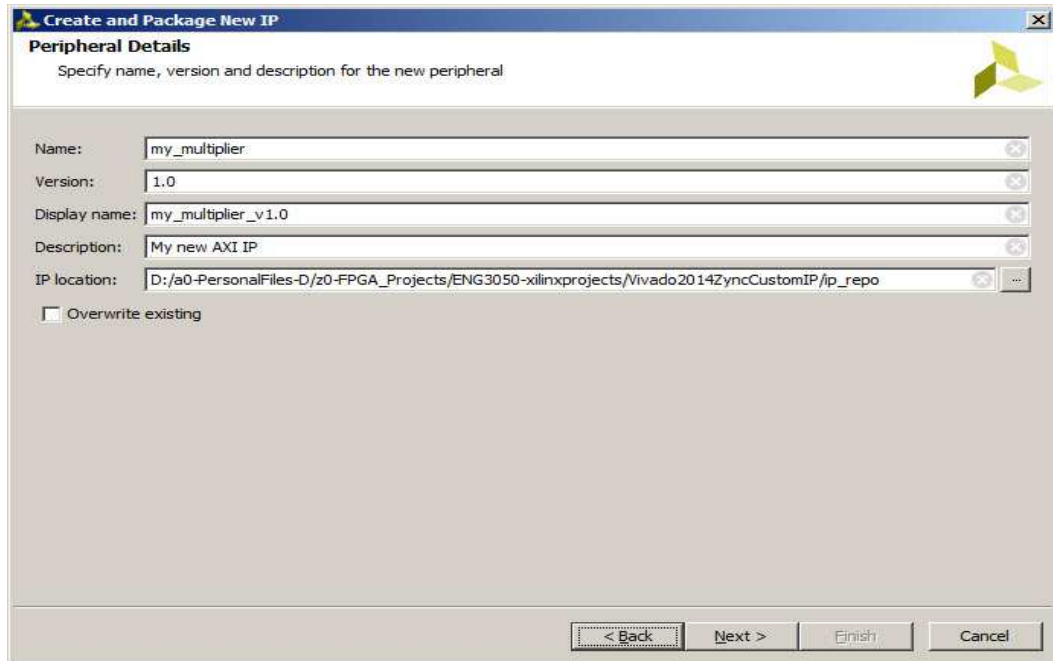

Figure 15: Peripheral Details
3. On the next page (**Figure 15**), **select “Create a new AXI4 Peripheral**. **Click “Next”**.